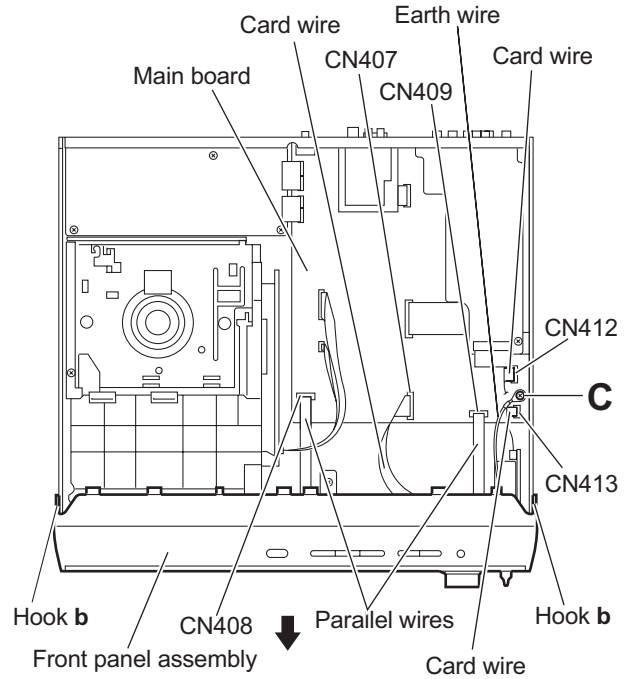

Fig.5
3.1.2 Removing the front panel assembly (See Figs.5 and 6)
- (1) From the top side of the main body, disconnect the parallel wires from the connectors (CN408, CN409) on the main board. (See Fig.5.)
- (2) Disconnect the card wires from the connectors (CN407, CN413) on the main board. (See Fig.5.) [US/UW/UG version]
- (3) Disconnect the card wires from the connectors (CN407, CN412) on the main board. (See Fig.5.) [UJ version]
- (4) Remove the screw **C** attaching the earth wire to the main board. (See Fig.5.)
- (6) Release the two hooks **b** and hook **c** from the both and bottom sides of the main body, and remove the front panel assembly in the direction of the arrow. (See Figs.5 and 6.)